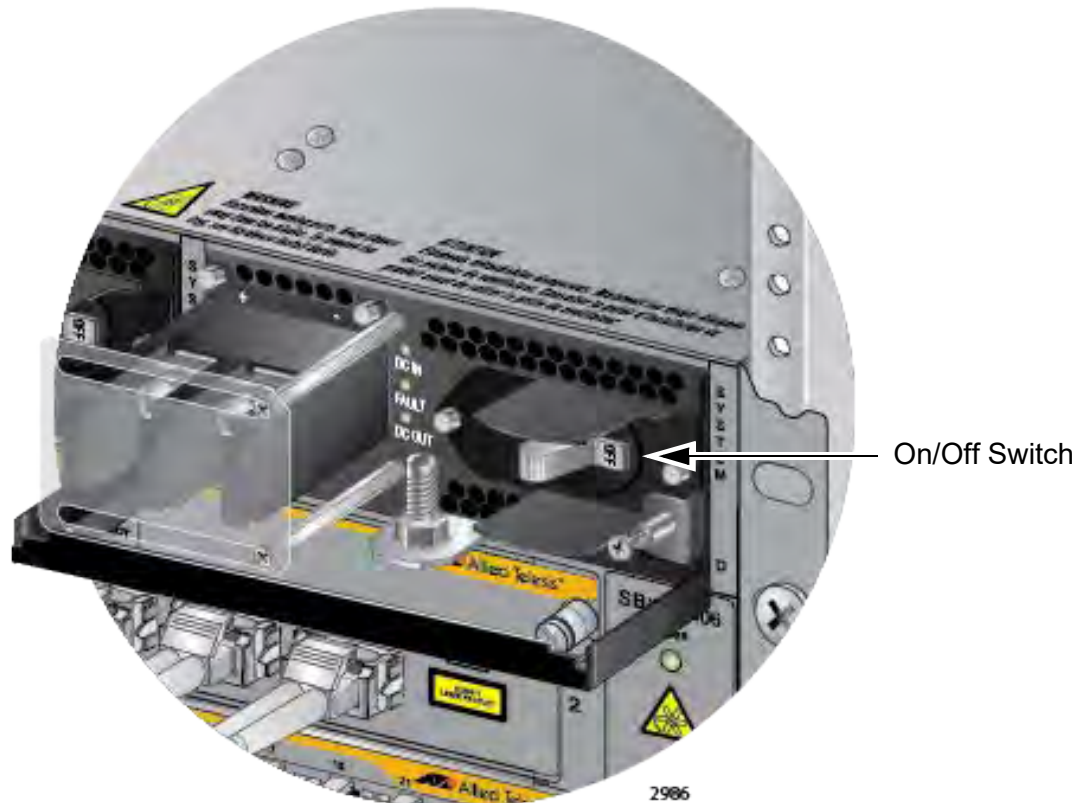

Figure 137. On/Off Switch on the AT-SBxPWRSYS1 DC Power Supply
3. Verify that the On/Off switch on the AT-SBxPWRSYS1 DC Power Supply is in the Off position. Refer to Figure 137 on page 214.
2. Verify that the On/Off switch on the AT-SBxPWRSYS1 DC Power Supply is in the Off position. Refer to Figure 137 on page 214.
2. Turn the On/Off switch on the power supply to the On position. See Figure 137 on page 214.